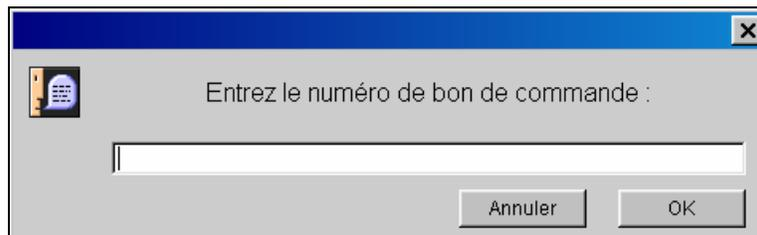

Figure 5: Enter the order form number
**Order no.:** a dialogue box appears when you click in this field. Enter or change the order number and confirm (figure 5).